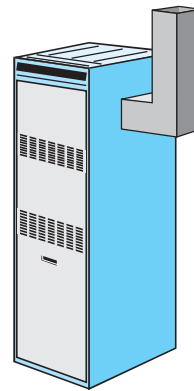

FIGURE P6.16
- 6.16 A hot-air home heating system takes 0.25 m³/s air at 100 kPa, 17°C into a furnace, heats it to 52°C, and delivers the flow to a square duct 0.2 m by 0.2 m at 110 kPa (see Fig. P6.16). What is the velocity in the duct?